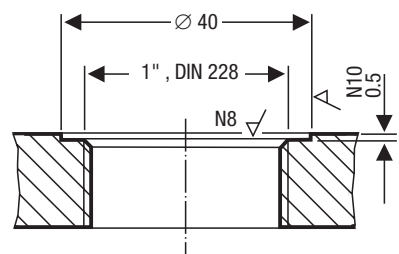

Fig. 3
1. Determine required measuring lengths of electrode tips and enter data in **table “Functions”**. **Fig. 3**
5. Check seating surfaces of threads or flange provided on vessel or boiler standpipe. **Fig. 3**.
Place supplied joint ring **9** onto seating surface of the threaded standpipe or flange. **Fig. 3**